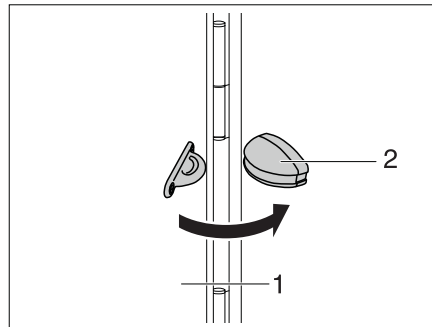

Fig. 54 Holding device external flap
- Open the external flap (Fig. 54,1) and swing it towards the vehicle side.
- Press the external flap into the holding device (Fig. 54,2).
- Pull the external flap (Fig. 54,1) with a firm tug out of the holding device (Fig. 54,2).